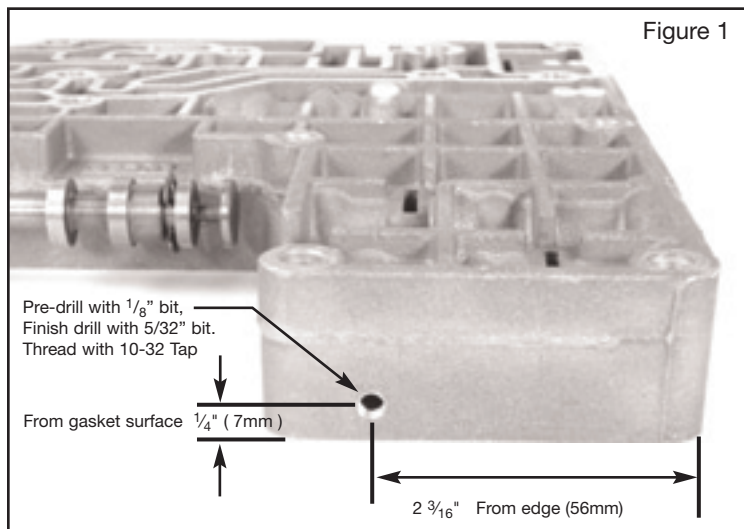

Figure 1
1. Drill and tap the valve body as shown (see Figure 1).